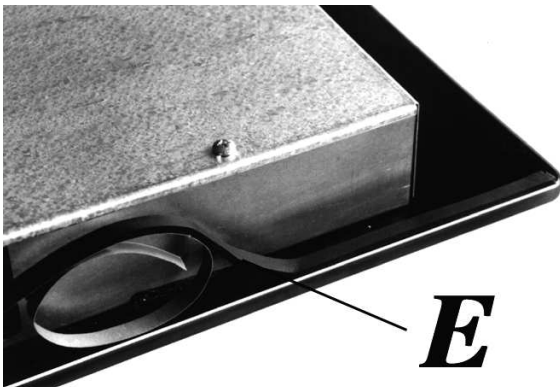

FIG. 6
- Overturn the hot plate and correctly position seal "E" (fig. 6) under the edge of the hot plate itself, so that the outer side of the seal perfectly matches the outer perimetral edge of the crystal. The ends of the strips must fit together without overlapping.